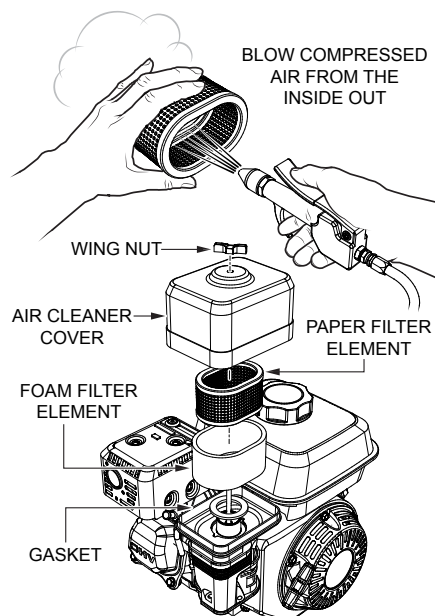

Figure 28. Engine Air Cleaner
1. Remove the air cleaner cover and foam filter element as shown in Figure 28.
2. Tap the paper filter element (See Figure 28) several times on a hard surface to remove dirt, or blow compressed air [not exceeding 30 psi (207 kPa, 2.1 kgf/cm²)] through the filter element from the air cleaner case side. **NEVER** brush off dirt. Brushing will force dirt into the fibers. Replace the paper filter element if it is excessively dirty.